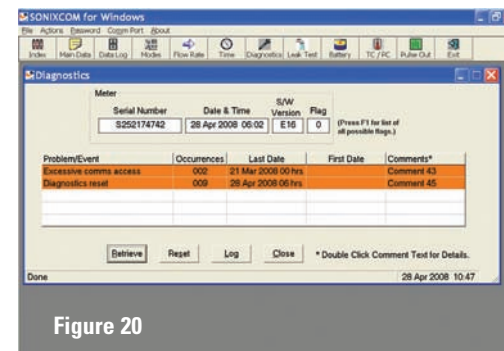

Figure 20
2. It is a good practice to Reset the Diagnostic log after any communication with a SONIX meter to prevent communication flags from occurring. (Figure 20)